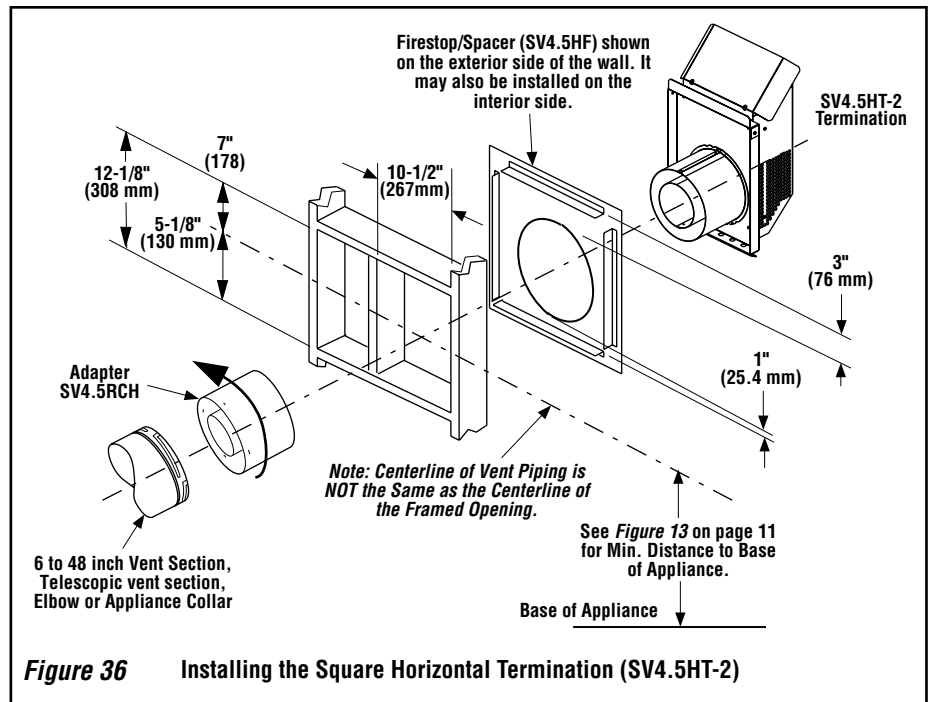

Figure 36 Installing the Square Horizontal Termination (SV4.5HT-2)
K. Attach termination adapter - Attach the adapter (adapter - SV4.5RCH - provided with the termination) to the vent section or telescoping vent section, elbow or appliance collar as shown in **Figure 36** in the same manner as any SV4.5 vent component (refer to **Step E**).
L. Install Firestop/Spacer at exterior wall - When using the **square** termination, install SV4.5HF (Secure Vent), SF4.5HF (Secure Flex) Firestop/Spacer over the opening at the exterior side of the framing, long side up, with the 3 inch spacer clearance at the top as shown in **Figure 36**, and nail into place.